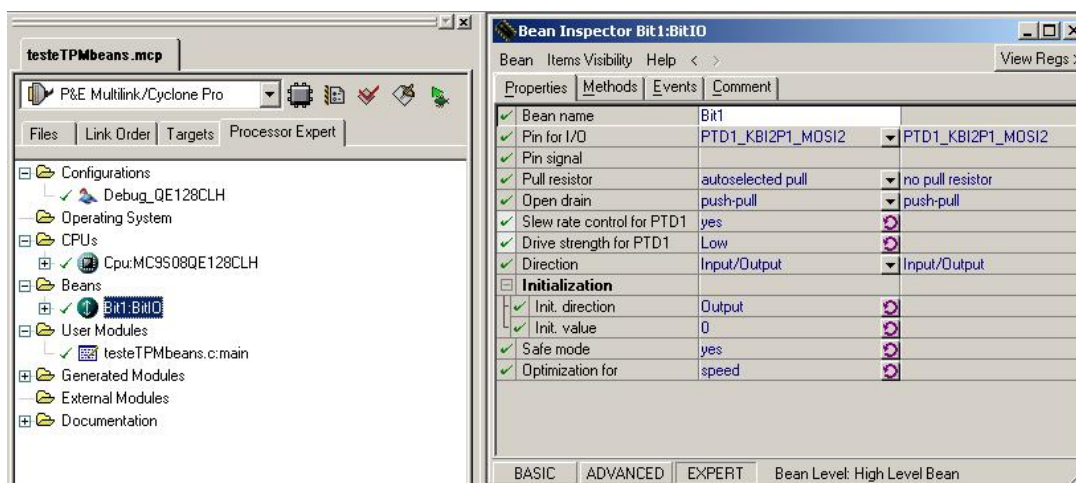

Figure 19. Bean Inspector window - BitIO Bean
1. In the Processor Expert tab on the left panel, in the Beans folder, the new BitIO bean is displayed (Figure 19).